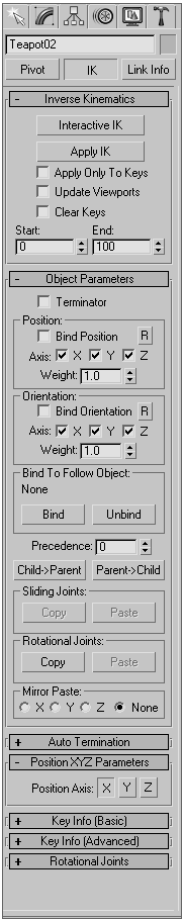

Figure 3.21
Inverse Kinematics (IK) is a method often used in character animation; it provides an easier way to move the parts of a character’s armature by using IK handles to place the limb’s extremities, such as the feet. You simply animate the placement of the feet, and IK solves all the necessary rotations of the leg bones and animates the legs into the proper placement for the feet. The IK panel is shown in Figure 3.21. You will see how IK and bones work in Chapter 9, “Animation Part II: Character Studio and IK.”